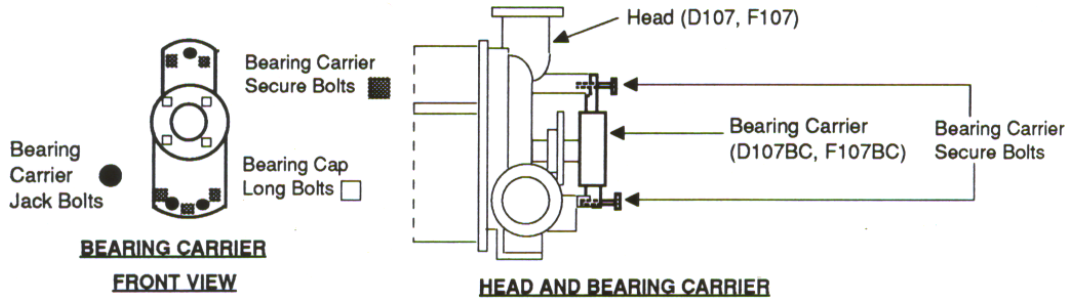

Figure 22. Bearing carrier assembly
- Install secure bolts into bearing carrier which thread into head (see Figure 22). Alternately tighten bolts until mating surfaces of bearing carrier head are flush and tight.